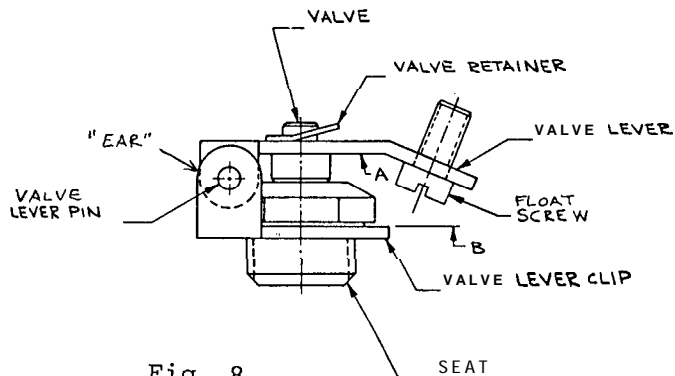

Fig. 8.
8. Check the seating of the valve. The point of the cone valve should easily drop into the orifice with no hang-up on the edges of the orifice. When the valve is shut, the valve lever should be visually parallel to the valve lever clip. (See Figure 8) Adjustments maybe made to the front or back of the lever pin ears by tapping VERY LIGHTLY with a SMALL HAMMER.